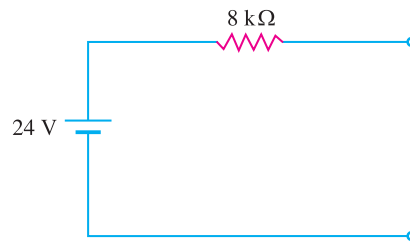

Fig. 1.49
- Convert the voltage source in Fig. 1.49 into equivalent current source. **[3 mA in parallel with 8 kΩ]**